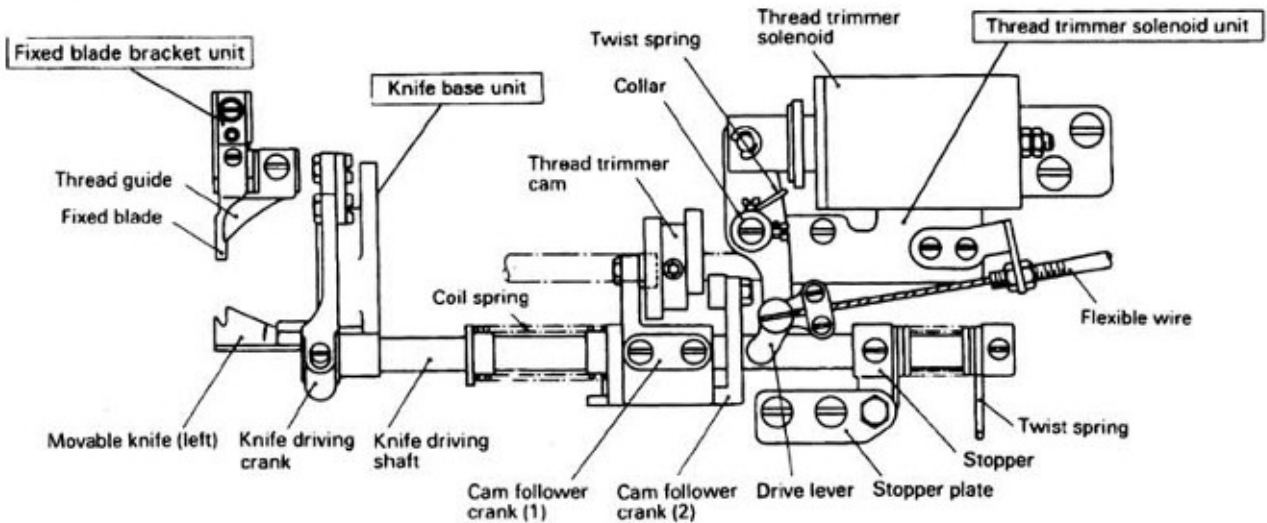

Fig.28
1) The thread trimmer mechanism illustrated as Fig.28